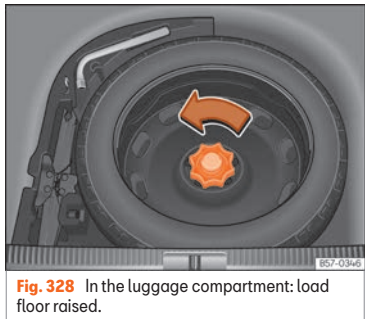

Fig. 328 In the luggage compartment: load floor raised.
- Turn the thumb wheel anti-clockwise »» Fig. 328.